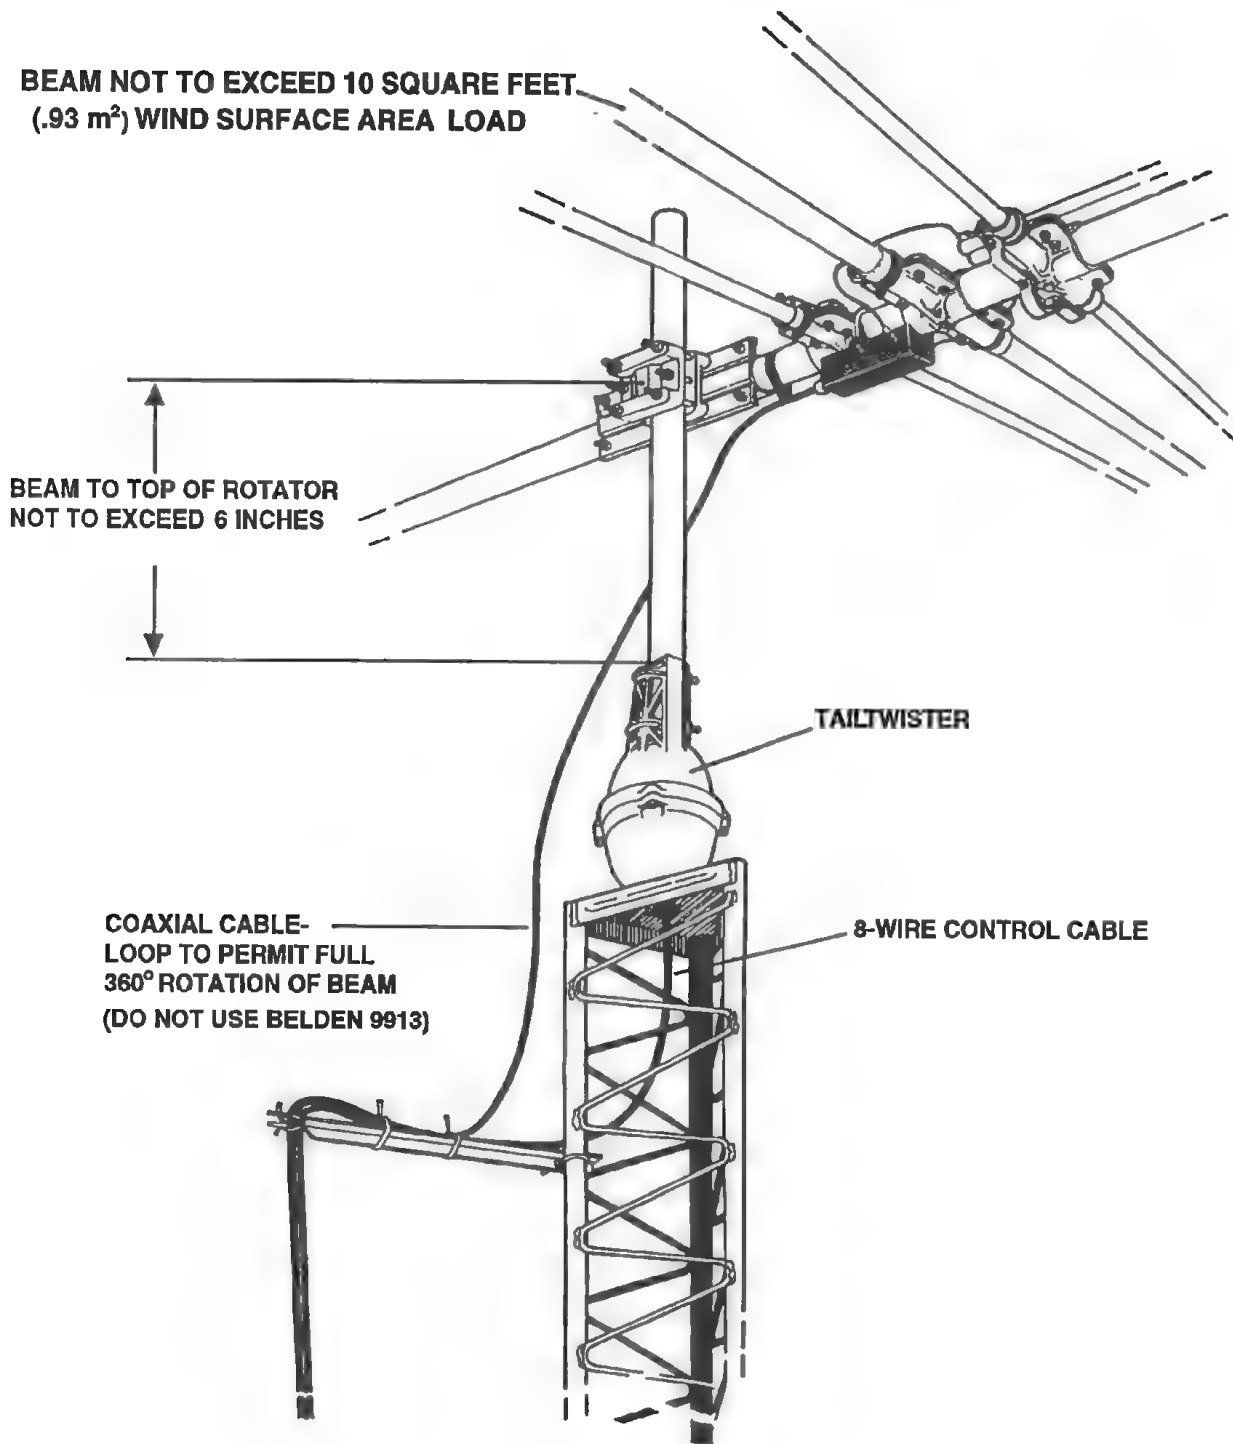

Figure 4
The rotator is mounted to the top surface of a tower, see Figure 4, by means of six (6) bolts furnished in the hardware kit. Use the following procedure:
1. Position the rotator on the top surface of the tower or other support structure and attach by means of six (6) bolts and lockwashers. The top of the tower must be cut out to allow the connecting 8-wire cable with connector to pass through the plate. If a new hole must be made, use the template in the back of this manual. Tighten the six (6) bolts.
3. Assemble the mast to the rotator using the U-bolts, nuts, lockwashers, and clamp plate as shown in Figure 4. Apply a coating of heavy-duty motor oil or grease to the threads of the stainless steel bolts and U-bolts to prevent seizing. Tighten all bolts securely.